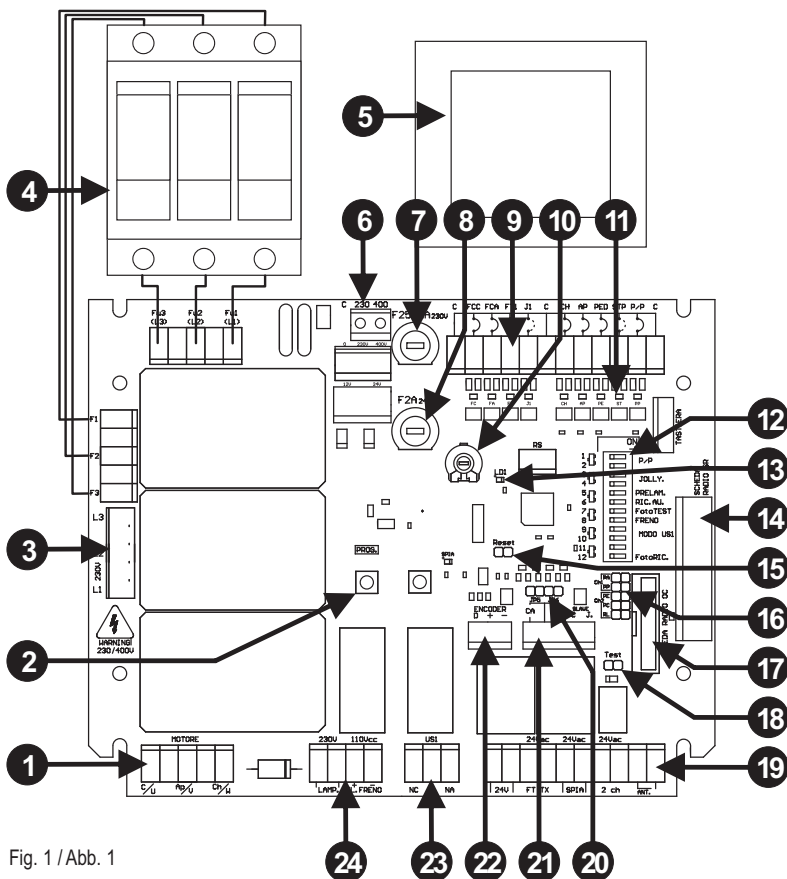

Fig. 1 / Abb. 1
The various options described can be selected using the function dipswitch (part 11 of fig.1).
- 2) Reset the unit by turning the control unit off and on, or by shorting the RESET pins for a few seconds (detail 15 of fig. 1). Keep the key PROG./STOP pressed.